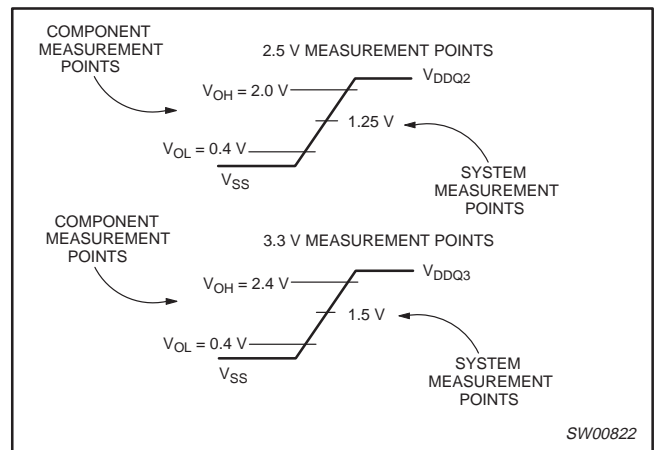

Figure 5. Component versus system measure points
1. See Figure 5 for measure points.
- Output (see Figure 5 for measure points).